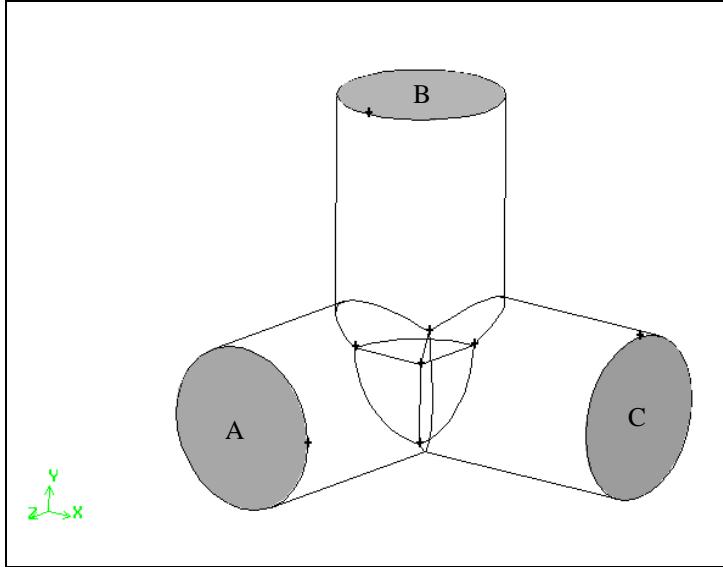

Figure 3-21: Boundary types for faces of the three-pipe intersection
- iv. *Shift*-left-click the end of one of the pipes (the face marked A in Figure 3-21) and click **Apply** to accept the selection.
- ii. Check that `ELEMENT_SIDE` is still selected in the **Type** option menu and *Shift*-left-click the end of one of the other pipes in the graphics window (the face marked B in Figure 3-21).
- iv. Set the **Type** for the end of the third pipe (the face marked C in Figure 3-21) to be `ELEMENT_SIDE`, using the **Name** `outflow3`.